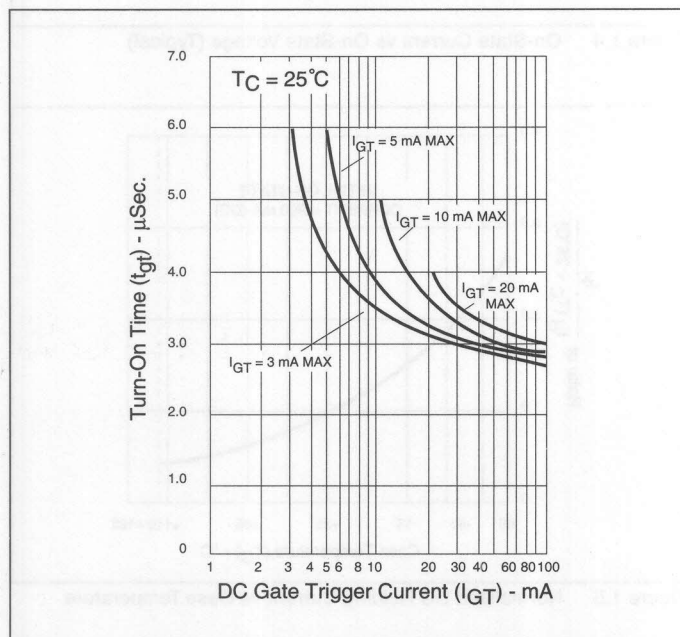

Figure 1.8 Turn-On Time vs Gate Trigger Current (Typical)
- See Figure 1.8 for t_{gt} vs I_{GT} .